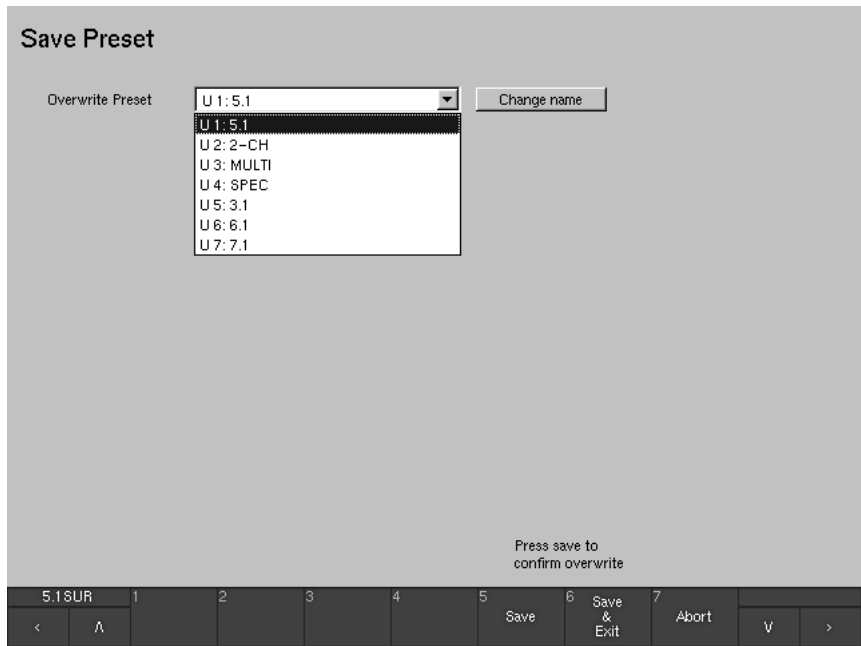
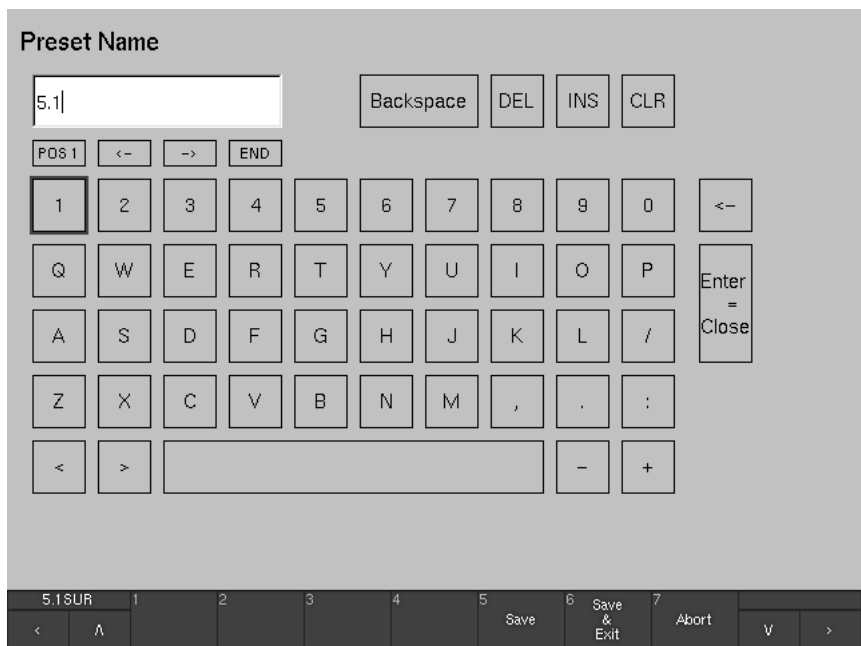

Fig. 6-9: The Save Preset menu page
Fig. 6-10: The keypad on the Preset Name menu page for changing the preset name
This button closes the menu page and prompts you to save the preset to one of the user presets (U 1 to U 7, see Fig. 6-9). You can also enter an individual name for the preset with the **Change name** button (6 characters, see Fig. 6-10).
See Fig. 6-9 and 6-10
This button closes the page and prompts you to save the preset (see chapter 6.3) to one of the user presets (U 1 to U 7, see Fig. 6-9). You can also enter an individual name for the preset with the **Change name** button (6 characters, see Fig. 6-10).
This button closes the page and prompts you to save the preset (see chapter 6.3) to one of the user presets (U 1 to U 7, see Fig. 6-9). You can also enter an individual name for the preset with the Change name button (6 characters, see Fig. 6-10).
Fig. 6-9 and 6-10
- See chapter 6.3 and Figs. 6-9 and 6-10  • **Close**